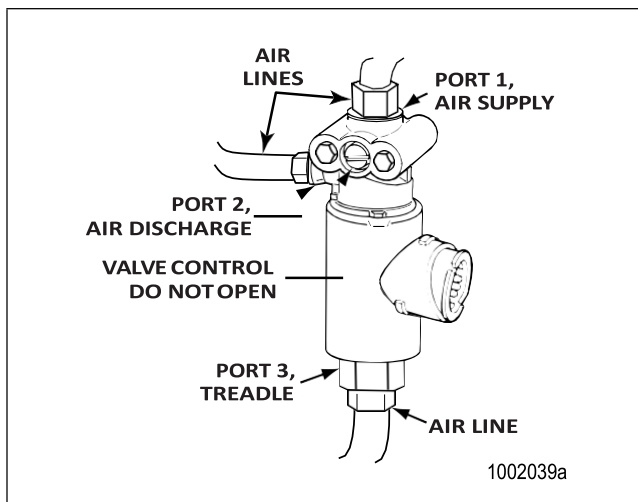

Figure 4.6
6. Disconnect the air lines from Port 1 (air supply), Port 2 (air discharge) and Port 3 (treadle) of the solenoid valve. Figure 4.6.